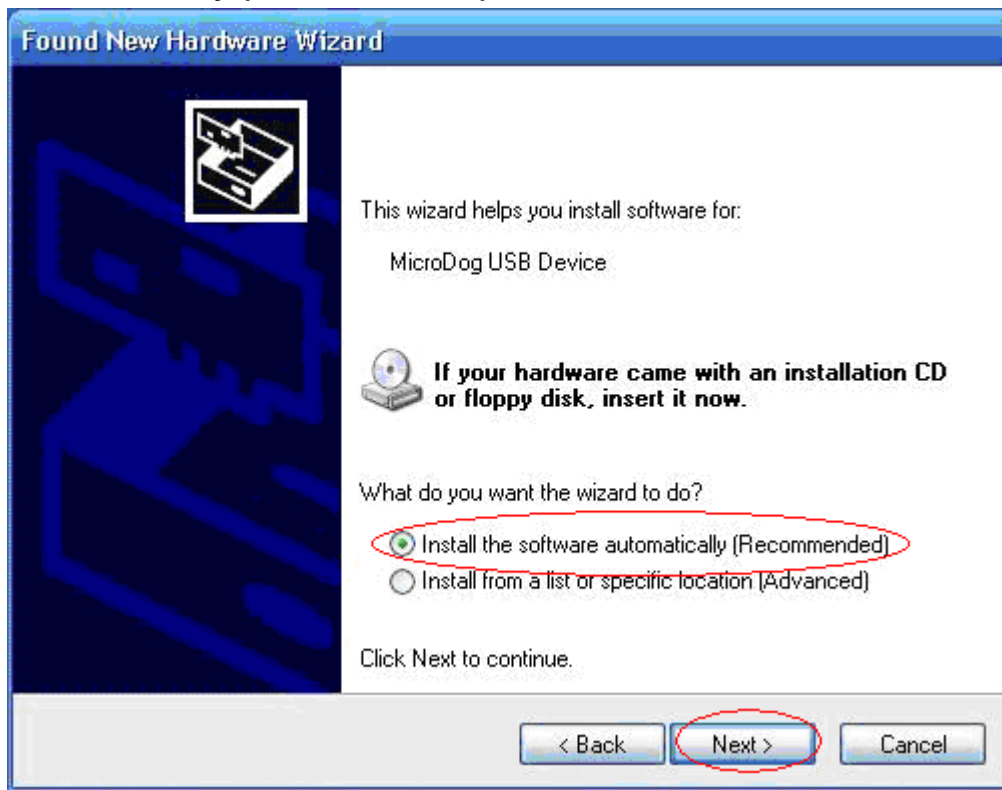

Figure 4-43
- 6) Click **Next** to display the interface as shown in Figure 4-42. Verify that the displayed information is correct, and then click **Next** to start the installation. The installation interface is as shown in Figure 4-43.